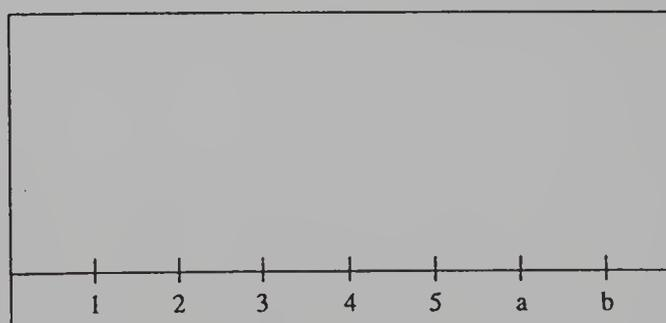

Figure 32-5. Spotting of Amino Acids
3. Mark the paper with pencil as shown in Figure 32-5 for five known amino acids (1 through 5) and two unknown mixtures (*a*, *b*) on a line 1 cm from the long edge.